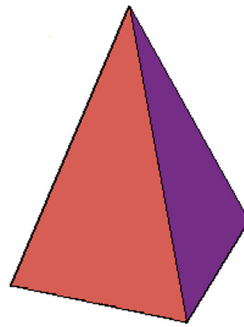

FIGURE 23.24
Step 4. Drag your mouse (or enter a value) and the pyramid shape is automatically extruded, as seen in Figure 23.24. Just like with the cone, you can vary the top radius of the shape.